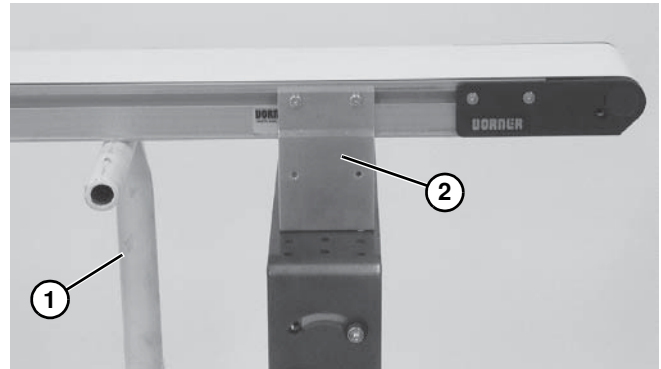

Figure 33
7. Place temporary support stands (**Figure 33, item 1**) at both ends of the conveyor.
8. Remove mounting brackets (**Figure 33, item 2**) from one side of conveyor. (Reverse steps 3 & 4 of “Mounting Brackets” on page 12.)